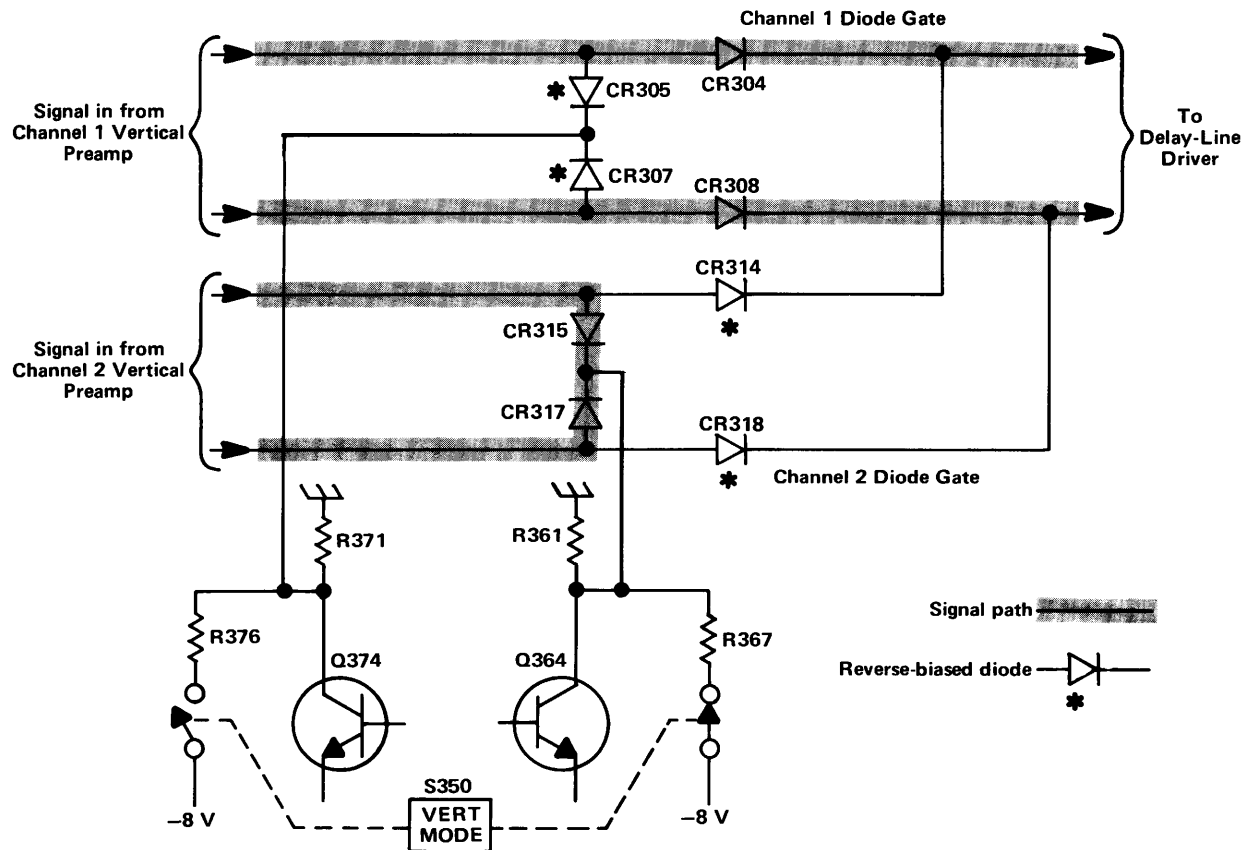

Fig. 3-5. Effect of Diode Gates on signal path (simplified Vertical Switching diagram). Conditions shown for CH 1 position of VERT MODE switch.
**Channel 1 Only Display.** When the CH 1 pushbutton is pressed, -8 volts is applied to the junction of CR315-CR317 in the Channel 2 Diode Gate through R367 (see simplified diagram in Fig. 3-5). This forward biases CR315 and CR317 and reverse biases CR314 and CR318. CR314 and CR318 block the Channel 2 signal so it cannot pass to the Delay Line Driver stage. At the same time in the Channel 1 Diode Gate, CR305 and CR307 are connected to +5 volts through R371. CR305 and CR307 are held reverse-biased while CR304 and CR308 are forward biased. Therefore, the Channel 1 signal passes to the Delay Line Driver stage.